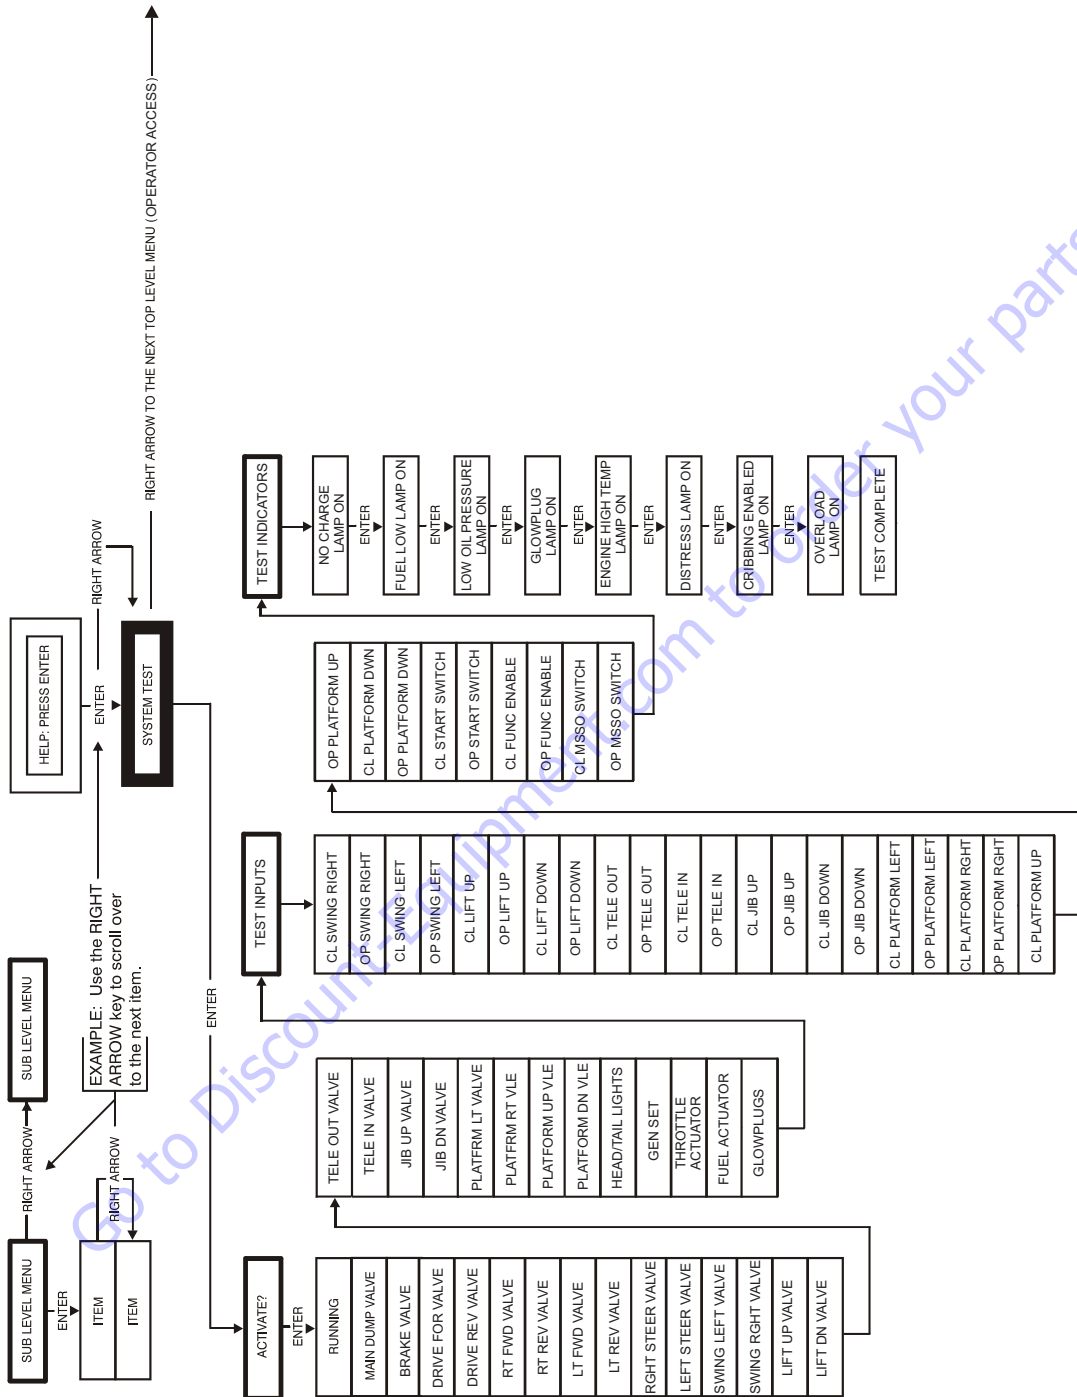

Figure 6-22. System Test Flow Chart - Ground Station Tests
6. Follow the flow path in (See Figure 6-22.), System Test Flow Chart - Platform Tests and go through the component tests. Hit the ESC key during any part of the test to return to the main menu without completing all tests or wait until all tests are complete. During the TEST ALL INPUTS sequence, the analyzer allows control switches to be operated and shows if they are closed (CL) or open (OP).